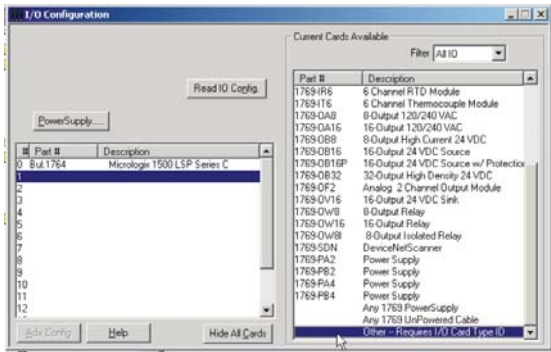

FIG. 4-7 I/O CONFIGURATION DIALOG BOX
- Step 2. Click on I/O Configuration. The I/O Configuration dialog box appears. (See Fig. 4-7)